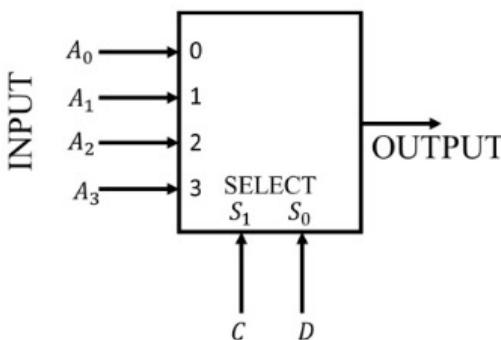

Fig. 4.23: MUX
40. Consider the 2-bit multiplexer(MUX) shown in Fig. 4.23. For OUTPUT to be the XOR of C and D, the values for A_0, A_1, A_2 and A_3 are _____ (GATE EC 2022)